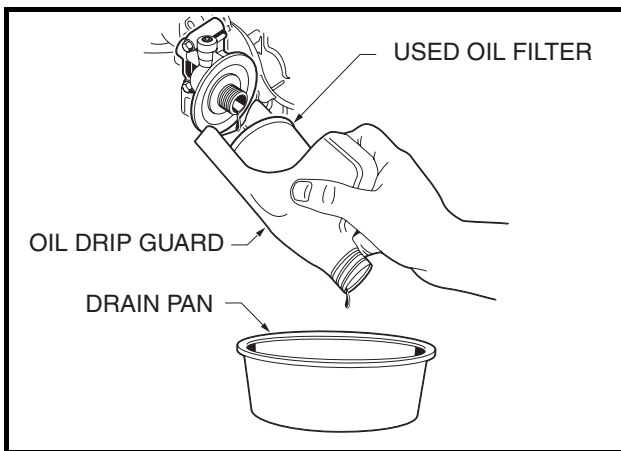

Figure 17 Remove Engine Oil Filter
9. Remove the engine oil filter, turning it counterclockwise, allowing the residual oil in the filter port and filter to drain into the oil drain pan (**Figure 17**). **See following NOTE.**